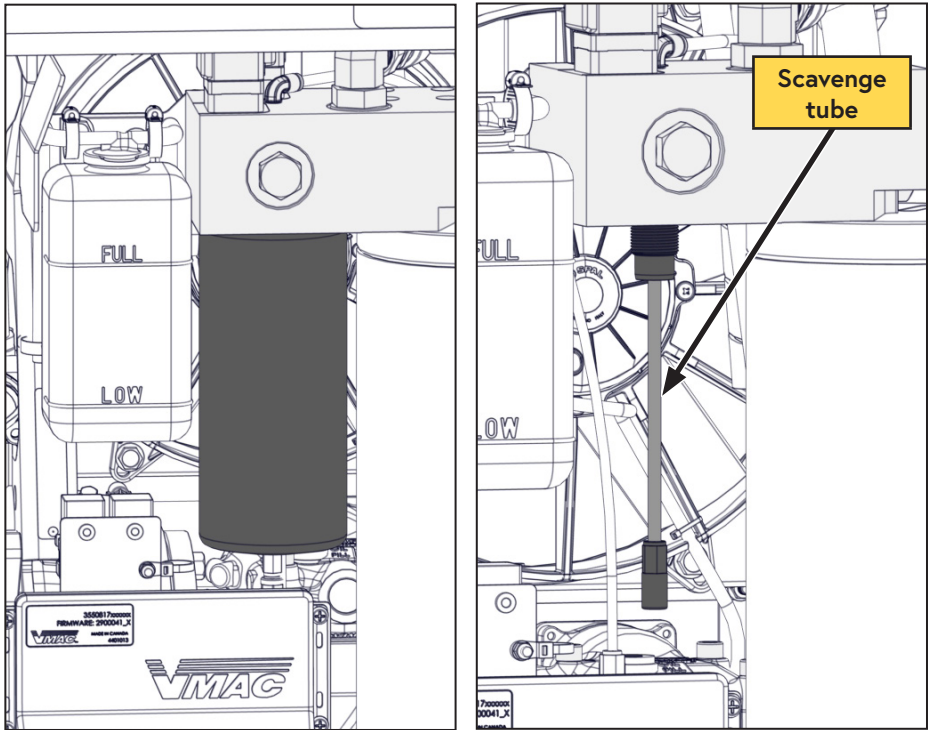

Figure 11 — Remove the coalescing filter
- Remove the coalescing filter, being careful to avoid damaging the scavenge tube or screen that is inside the filter (Figure 11).